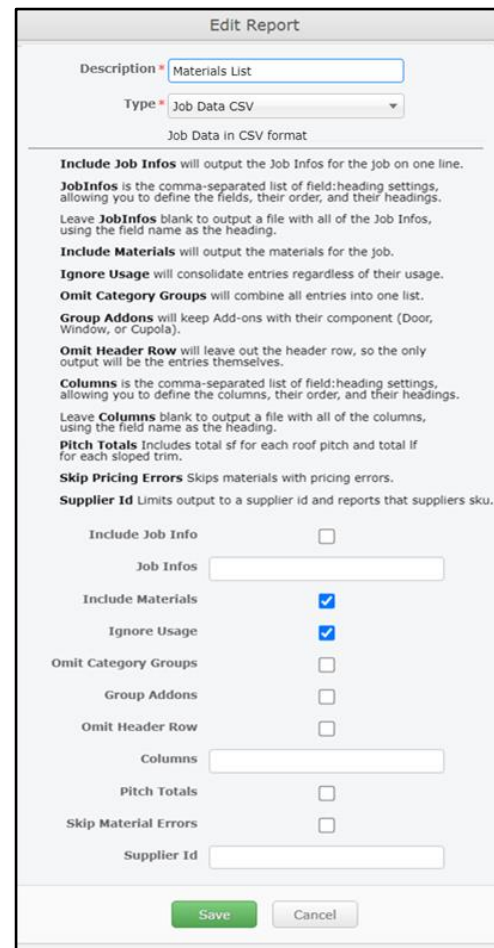

Figure 3: *Edit Report* dialog box for the *Materials List* output.
6. **Materials List**¹ – This output provides comprehensive, detailed materials data for a job in CSV format. There are 11 properties that can be included or excluded from this output. See Figure 3 below for further information. (Click here to view an example of the *Materials List* output.)
All non-Word related outputs are customized directly within the SmartBuild interface. To customize a non-Word output, go to the System Administrator’s *Outputs* page, click on the desired output to select it, and then click on the *Edit* button at the top of the page. This will open an *Edit Report* dialog box that presents you with the specific customizations available for that output. For example, *Figure 3* at right shows the *Edit Report* dialog box for the *Materials List* output. Here, you can see, the Systems Administrator is provided with 11 different options for customizing the contents of this output. Details about each option are provided at the top of the dialog.